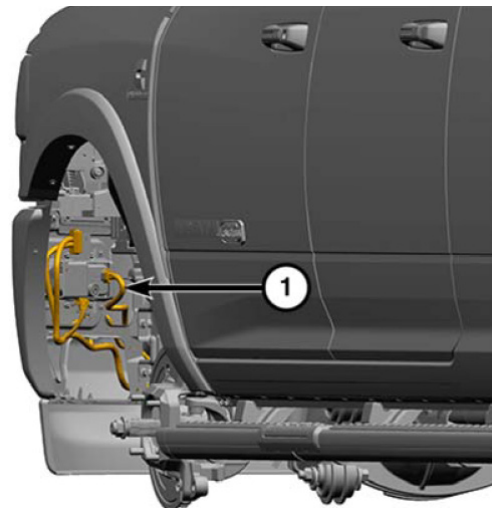

Figure 6
6. Disconnect the factory wiring harness from the inside of the driver side wheel well (Figure 6)